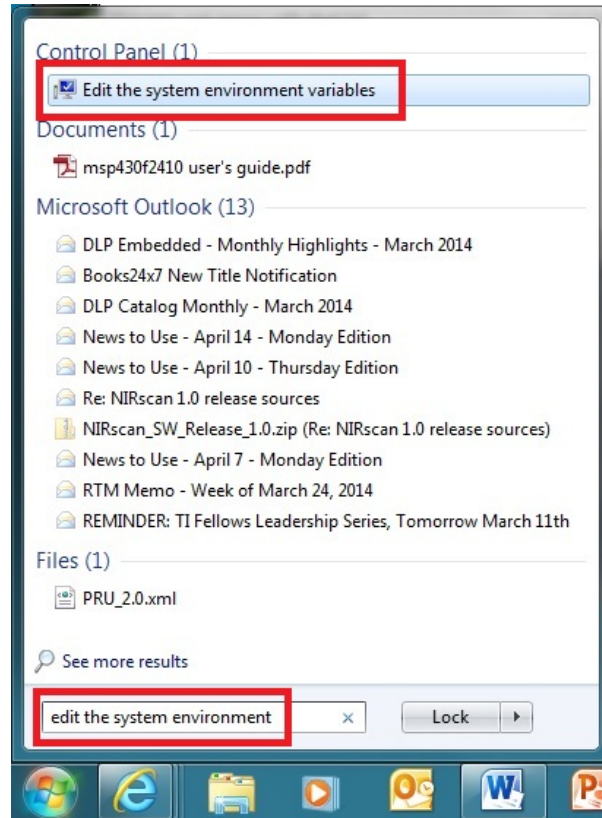

Figure 4-9. System Environment Variables Editing
- Click the Windows button and type "edit the system environment" into the search box, shown in Figure 4-9. Click the option labeled "Edit the system environment variables".